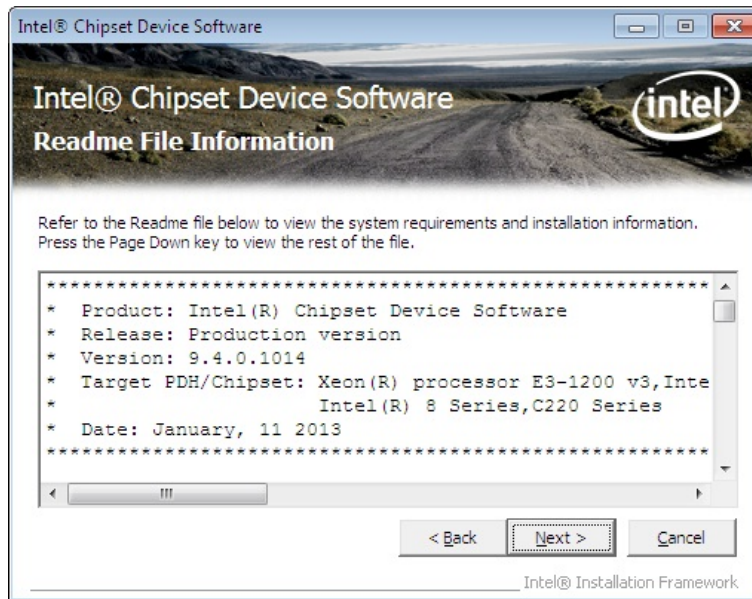

Figure 6-5: Chipset Driver Read Me File
Step 9: The Read Me file in **Figure 6-5** appears.